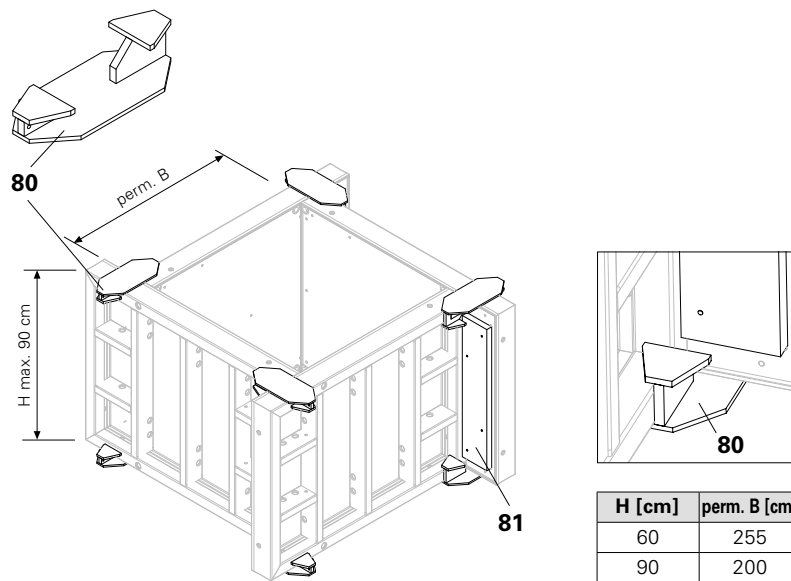

Fig. A15.01
The Foundation Strap TRIO (80) is used for forming individual foundations using the "windmill configuration". (Fig. A15.01)
3. Fix locating board (81) with nails. (Fig. A15.01 + A15.01a)